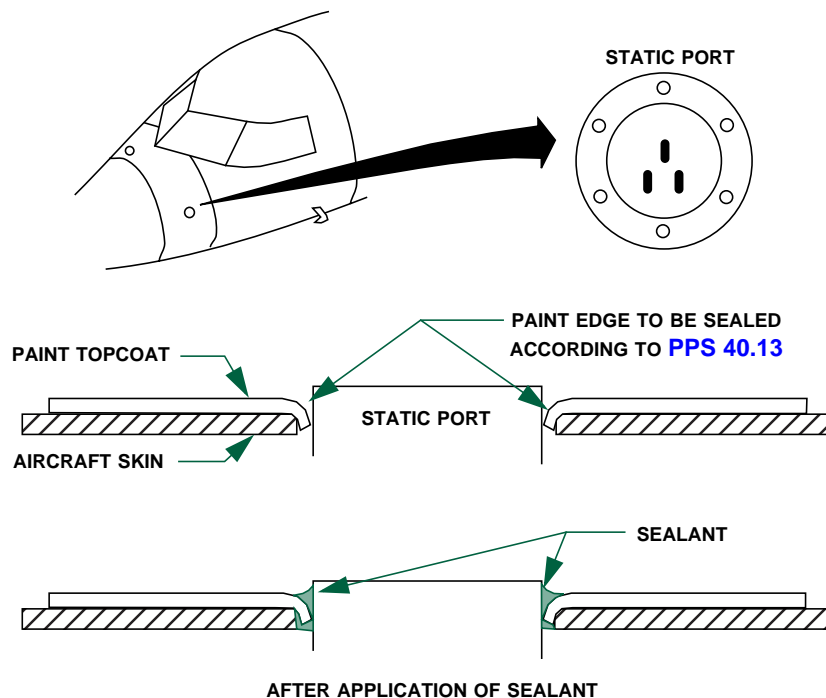

FIGURE 5 - SEALING PAINT EDGES AROUND STATIC PORTS
- 5.4.1 After curing of the paint topcoat according to PPS 34.03, seal the paint edges around the static ports by sealing the gaps between the static ports and the fuselage skin according to PPS 40.13 (see Figure 5).